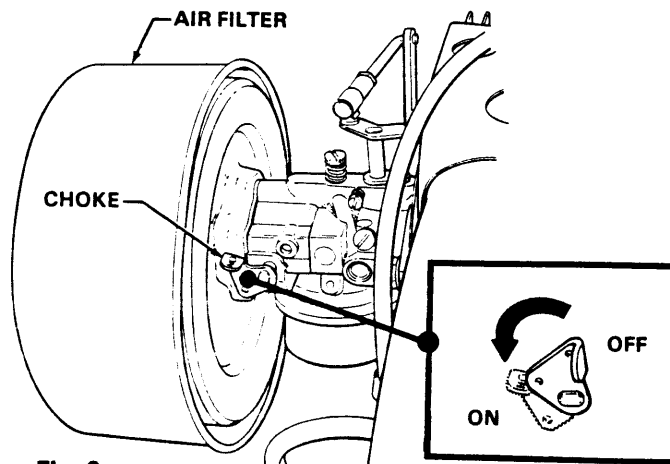

Fig 9
- d. If the engine is cold, close the choke by turning the lever to the ON position (horizontal). See Fig 9.